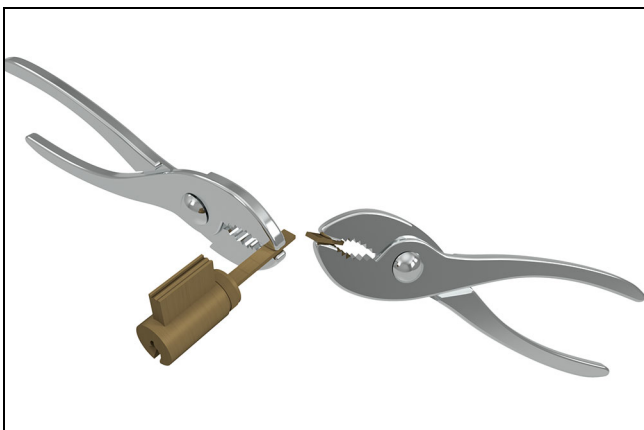

Figure 3
2. Fit the lever assist spring into the interior handle mounting base. Note the arrows must be oriented in the same direction as your handle will rotate to unlatch the door. See Figure 3.